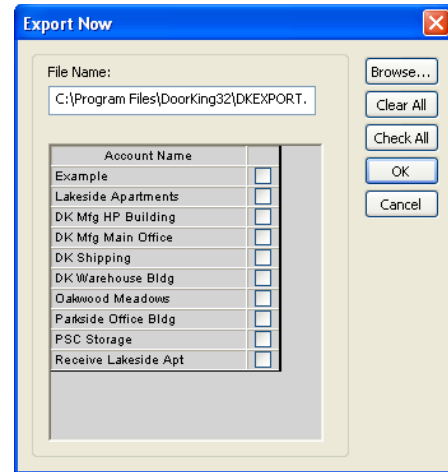

Figure 65
1. From the FILE pull down menu, click EXPORT. The export window will appear (Fig 65).